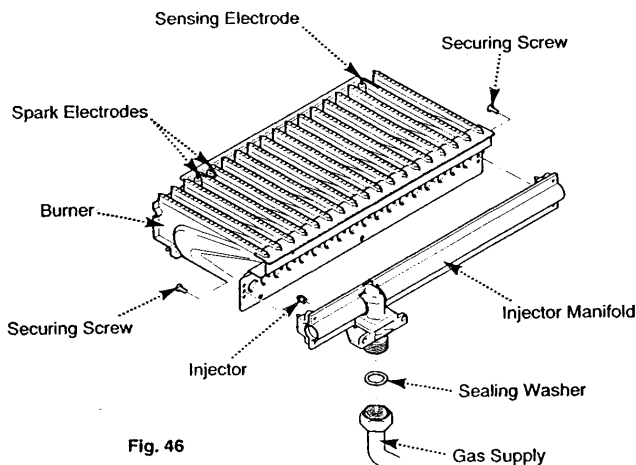

Fig. 46
9. Disconnect the gas supply from the burner inlet manifold and remove the two electrode leads from the burner (Fig. 46).
10. Draw the burner forwards out of the combustion box and disconnect the flame sensing lead. Take care not to damage or lose the sealing washer on the gas inlet flange (Fig. 46).